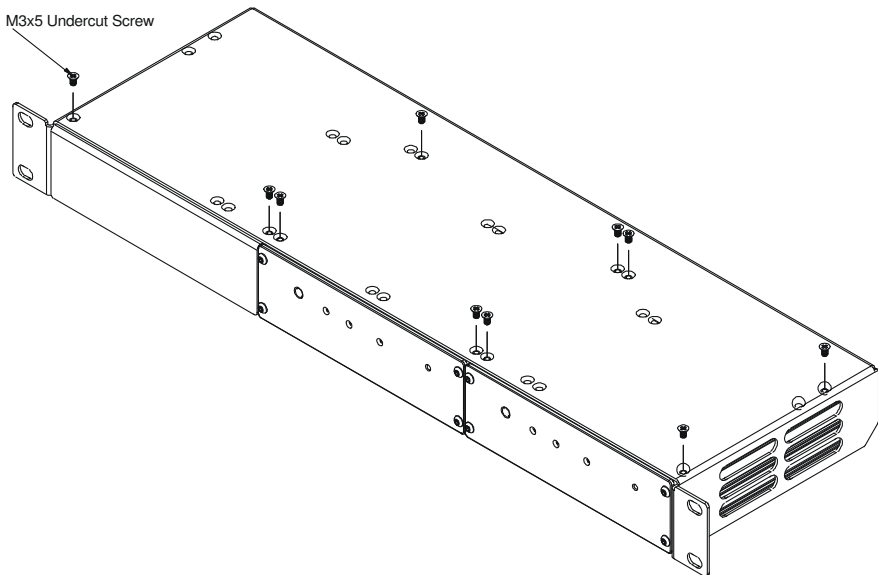

Figure 2: RK-13 Rack Adapter – Underside
3. Insert four M3x5 screws (supplied with the unit) through the holes on the **RK-13** that fit the holes on the underside of the **VP-2K** (as illustrated in Figure 2).